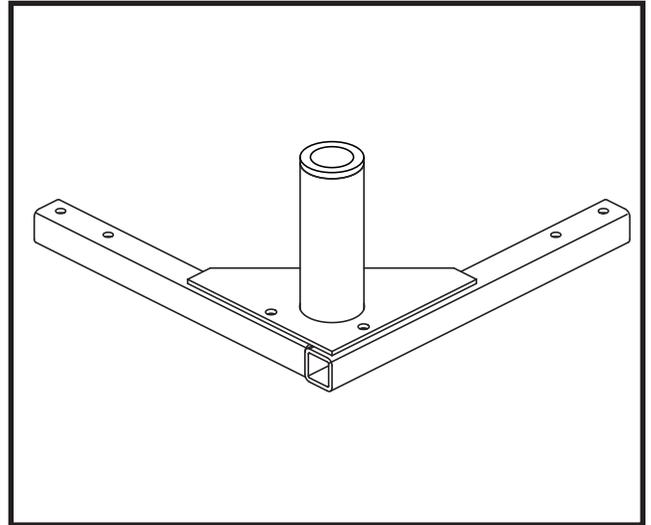
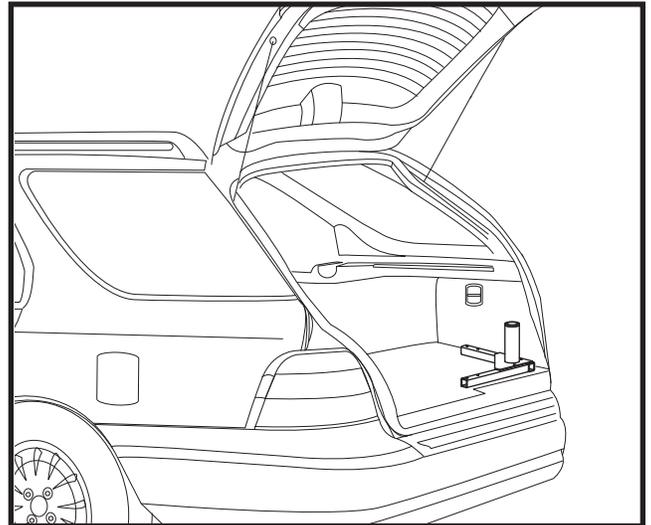
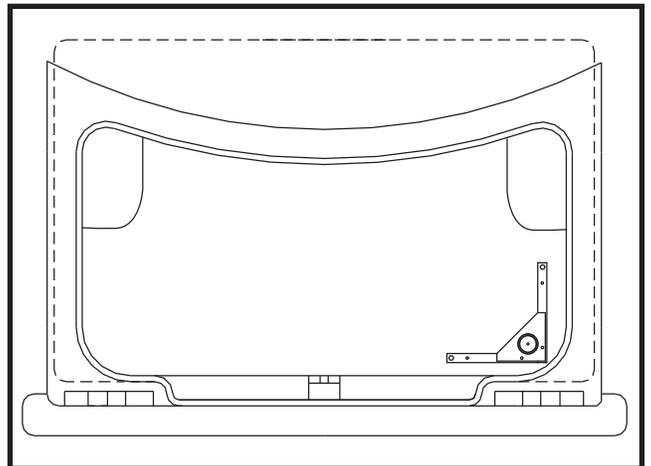

Figure 1. L-Base Assembly
Figure 2. L-Base (Hatchback Installation)
Figure 3. L-Base (Trunk Installation)
1. Before permanently installing the lift, place the L-base (see figure 1) inside your vehicle in the area in which you intend to install it. See figure 2 for L-base positioning for SUVs and vehicles with hatchbacks, or figure 3 for trunk installation.
Position the L-base as shown in figure 3. You may need to situate the L-base so the wheel well does not interfere with the L-base. Ensure there is adequate room for a mobility product to comfortably fit into the trunk.